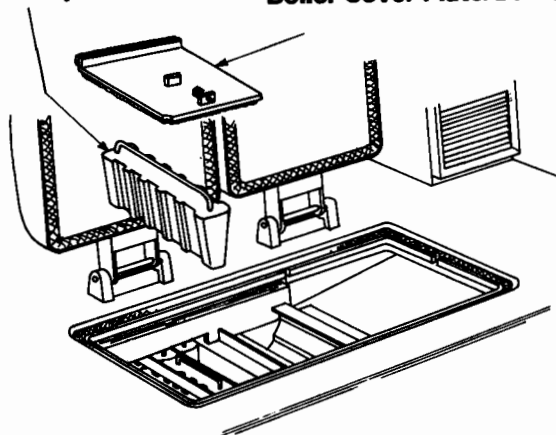

Fig. 3
- b. Lift out boiler combustion separator baffle and remove boiler flueway firebricks – See Fig. 3.